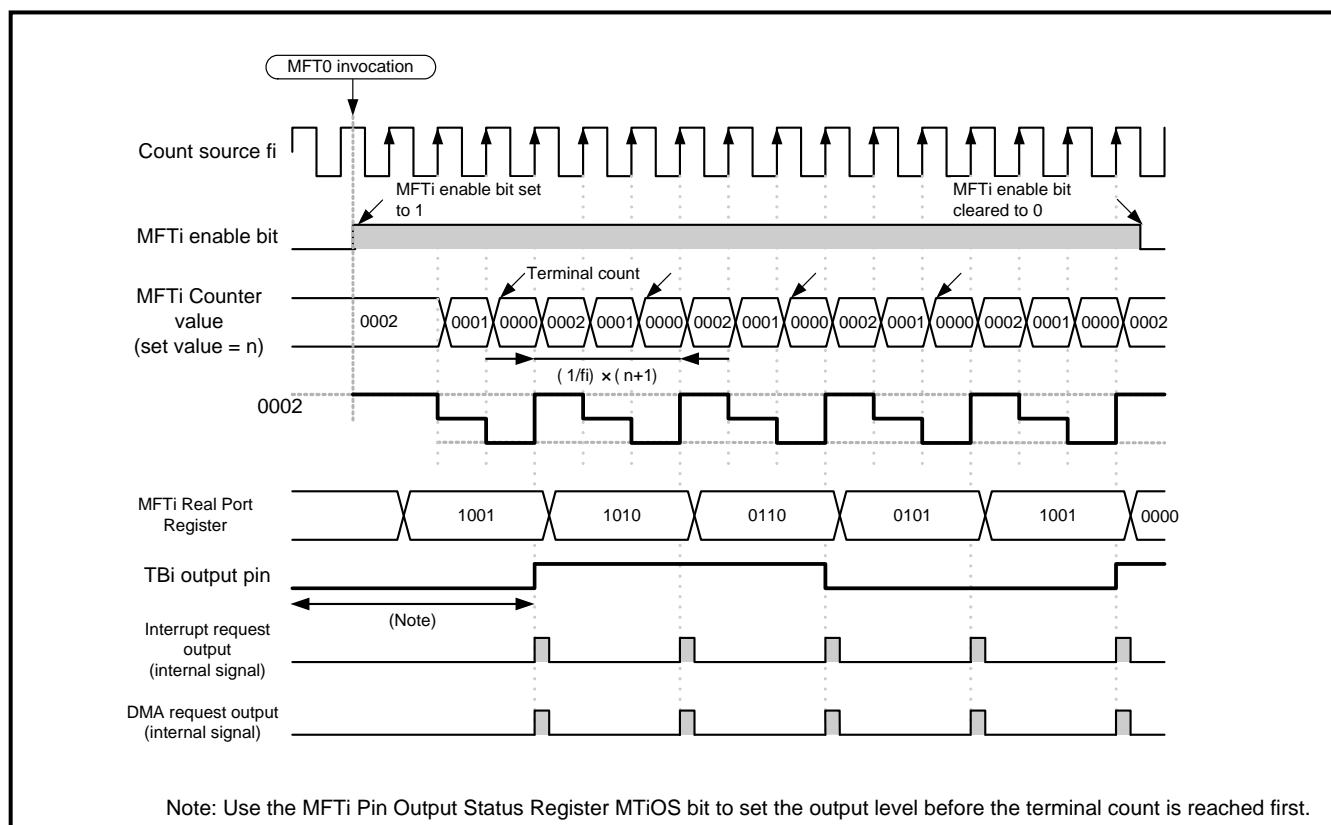

Figure 12.3.18 Example Operation Timing of MFTi when Acting as Real Port Timer
(4) Operation of MFTi as the real port timer
Figure 12.3.18 shows example operation timing of MFTi when acting as the real port timer that was set in (2).